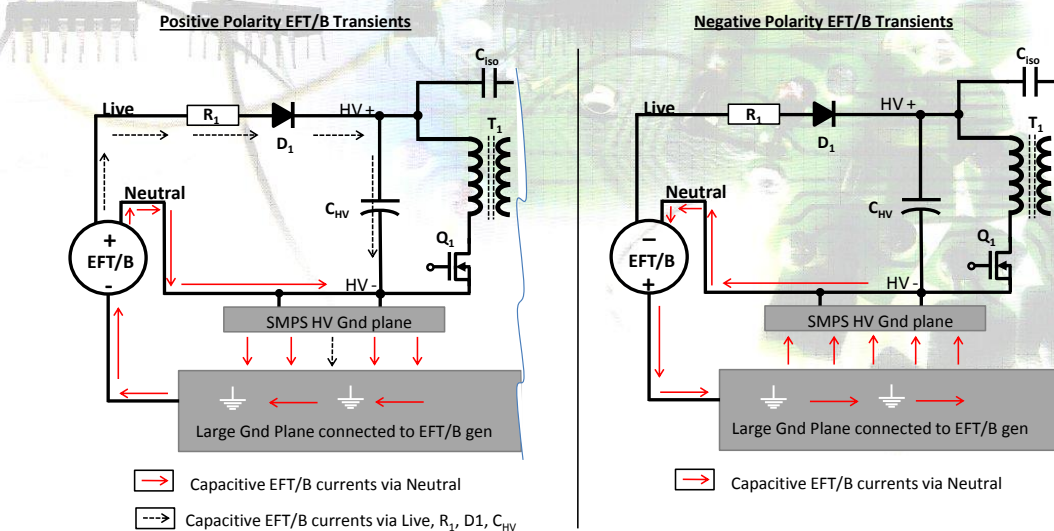

Figure 6: Positive and negative polarity EFT/B currents in SMPS with only single diode rectifier.
- Figure 6 shows SMPS with only one rectifier diode – pos polarity EFT/B immunity potentially higher.